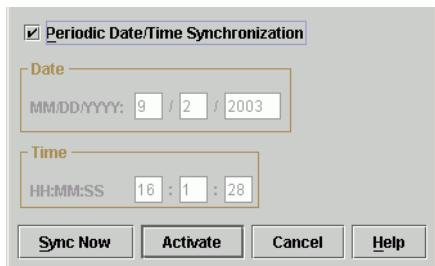

Figure 16: Configure Date and Time dialog box
- At the **Hardware View** page for the selected switch, choose **Configure > Date/Time**. The Configure Date and Time dialog box displays (Figure 16).